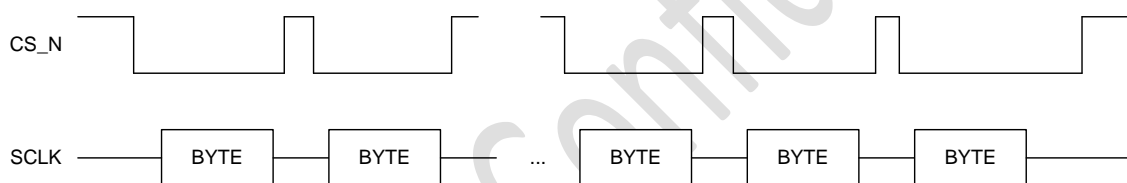

Figure 1-3. CS_N deassert mode
- Configurable option to control CS_N deassert between byte transfers. The controller supports a special transmission format called CS_N deassert mode. Figure 1-3 illustrates the waveform in this transmission format.